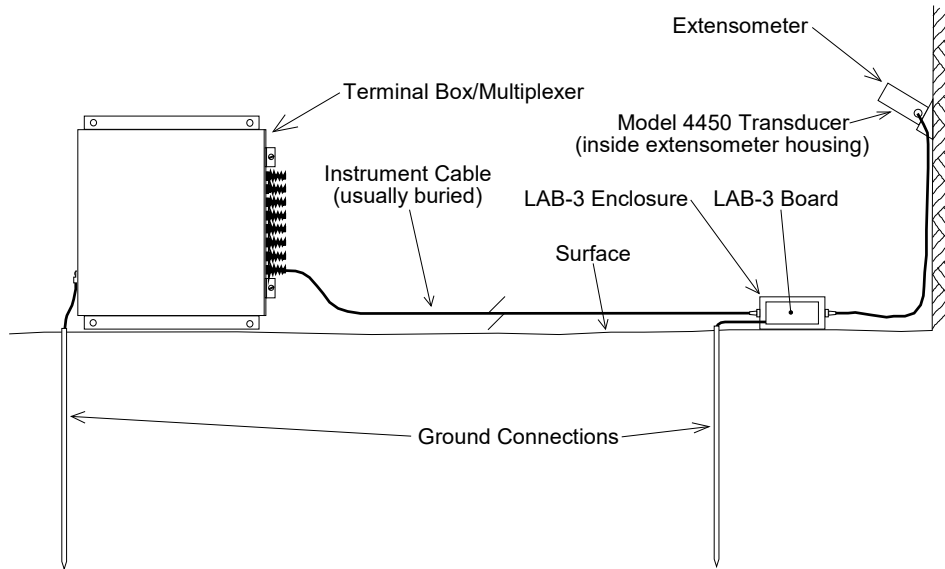

Figure 6 - Lightning Protection Scheme
- Lighting arrestor boards and enclosures are available from GEOKON that can be installed inside the enclosure. The enclosure has a hinged lid, so that if the protection board (LAB-3) is damaged, the user can service the components (or replace the board). A connection is made between this enclosure and earth ground to facilitate the passing of transients away from the gauge. (As shown in Figure 6.)